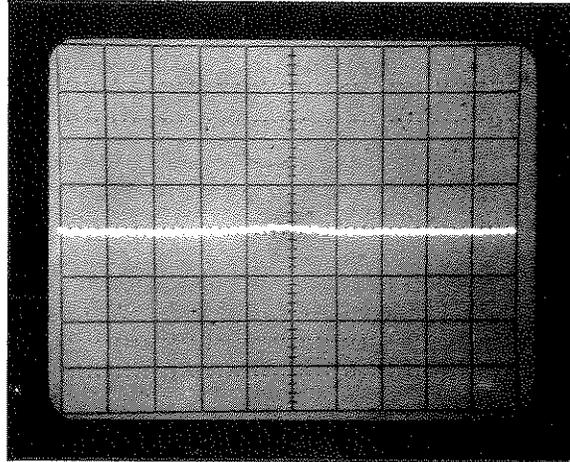

Figure 3-33. CRT Trace With Front-Panel VERT POSN Control Correctly Adjusted
- l. On the 8750A, press STORE INPUT then INPUT-MEM. The oscilloscope CRT trace should resemble the trace shown in Figure 3-33. Adjust the 8750A front panel VERT POSN control to place the oscilloscope CRT trace on the center graticule line. If the VERT POSN control runs out of range, change the vertical position control on the oscilloscope to bring it into range.